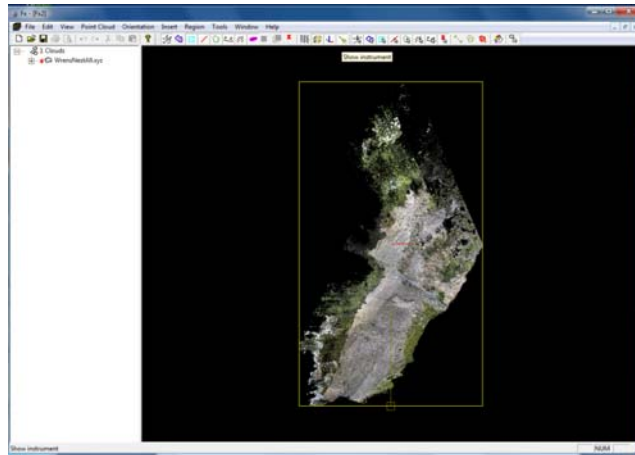

Figure 4 – Colour point cloud displayed in 3D window
- If you are opening a large point cloud (e.g. >150MB) then you may need to wait for a minute, and then your point cloud should appear, in full RGB glory, encompassed by a 'bounding box', in the black window (Figure 4).